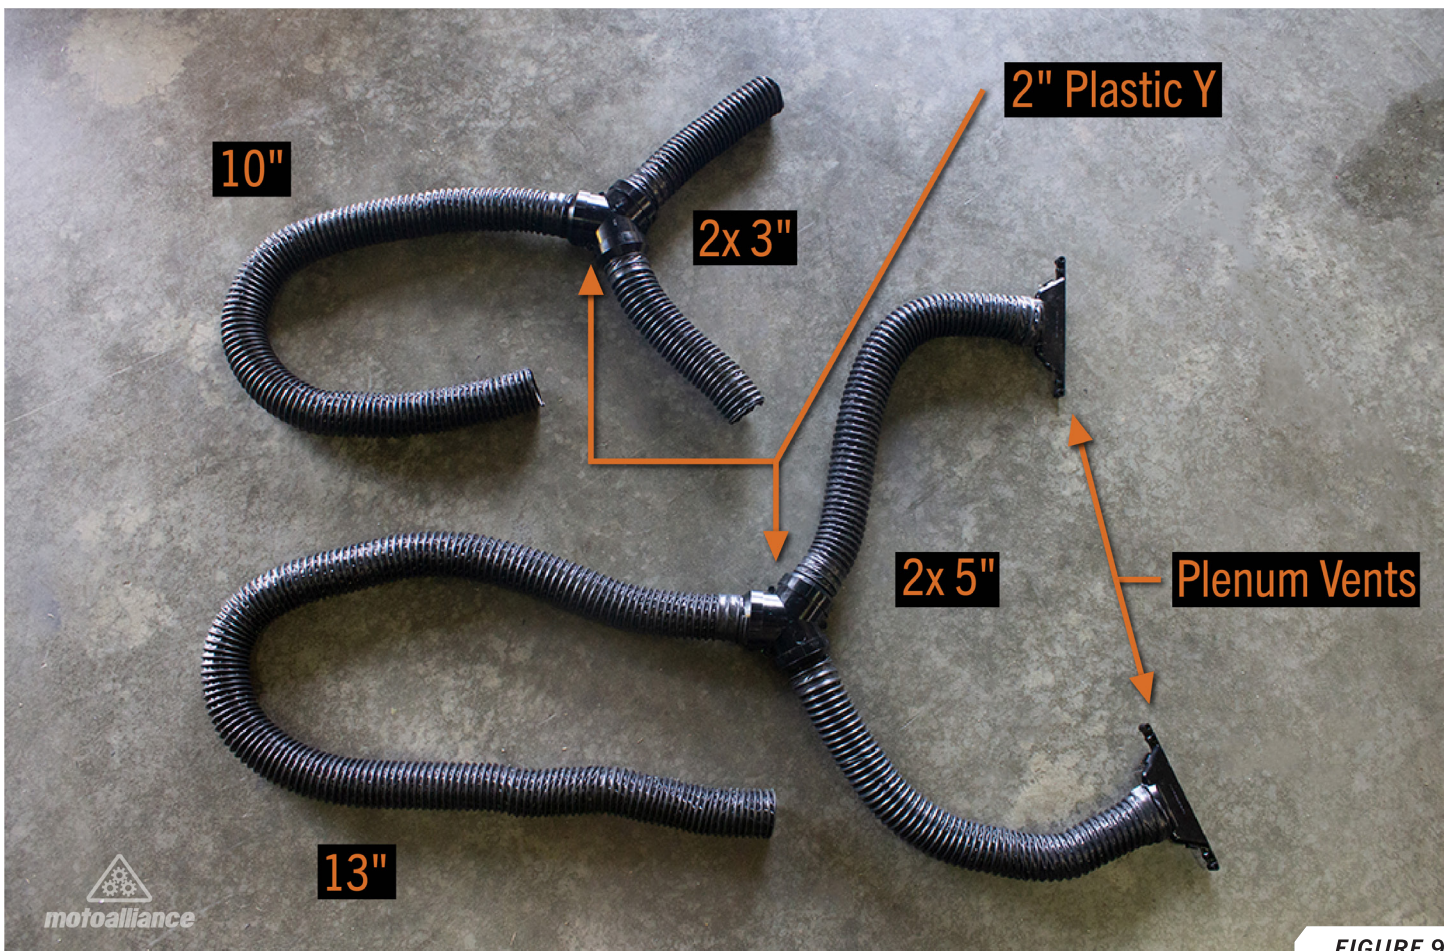

FIGURE 9
23. Connect the 13" duct hose section and the two 5" duct hose sections to one of the Y connectors. **FIGURE 9**
24. Connect the 10" duct hose section and the two 3" duct hose sections to the other Y connector. **FIGURE 9**